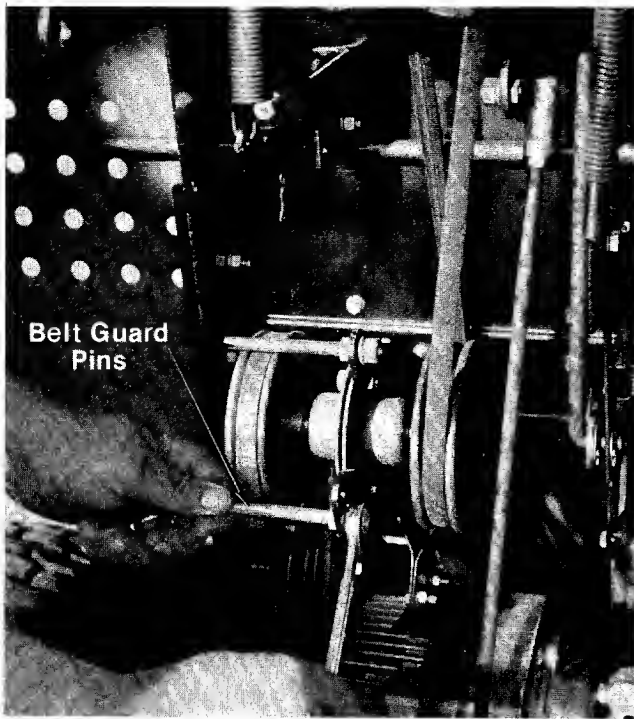

FIGURE 21.
4. Remove the two belt guard pins on the pulley assembly. See figure 21.